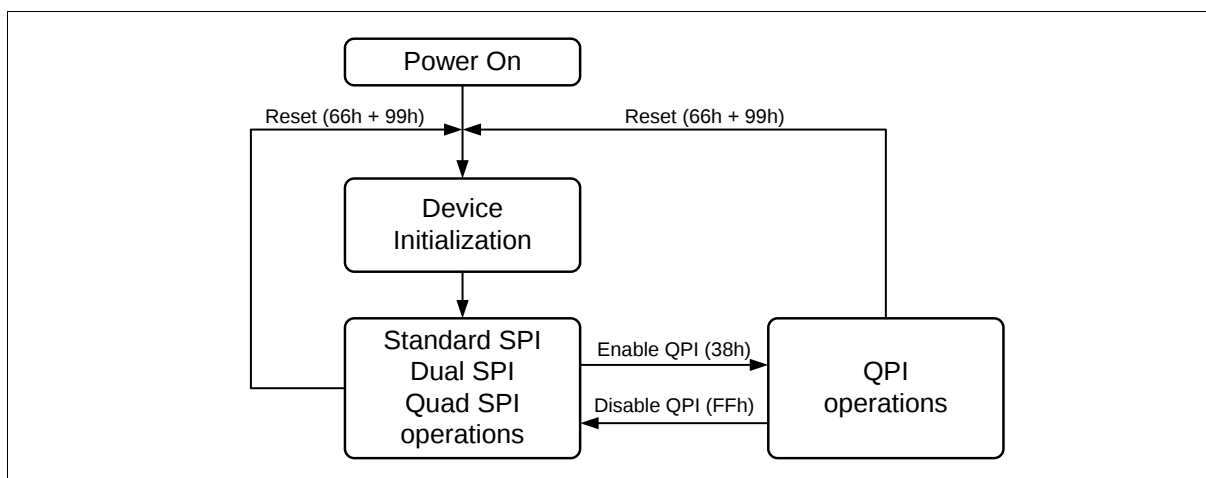

Figure 2 FM25LQ64I3 Serial Flash Memory Operation Diagram
The FM25LQ64I3 supports Quad Peripheral Interface (QPI) operations only when the device is switched from Standard/Dual/Quad SPI mode to QPI mode using the “Enable QPI (38h)” instruction. The typical SPI protocol requires that the byte-long instruction code being shifted into the device only via DI pin in eight serial clocks. The QPI mode utilizes all four DQ pins to input the instruction code, thus only two serial clocks are required. This can significantly reduce the SPI instruction overhead and improve system performance in an XIP environment. Standard/Dual/Quad SPI mode and QPI mode are exclusive. Only one mode can be active at any given time. “Enable QPI (38h)” and “Disable QPI (FFh)” instructions are used to switch between these two modes. Upon power-up or after a software reset using “Reset (66-99h)” instruction, the default state of the device is Standard/Dual/Quad SPI mode. To enable QPI mode, the non-volatile Quad Enable bit (QE) in Status Register-2 is required to be set. When using QPI instructions, the DI and DO pins become bidirectional DQ₀ and DQ₁, and the WP# and HOLD# pins become DQ₂ and DQ₃ respectively. See Figure 2 for the device operation modes.